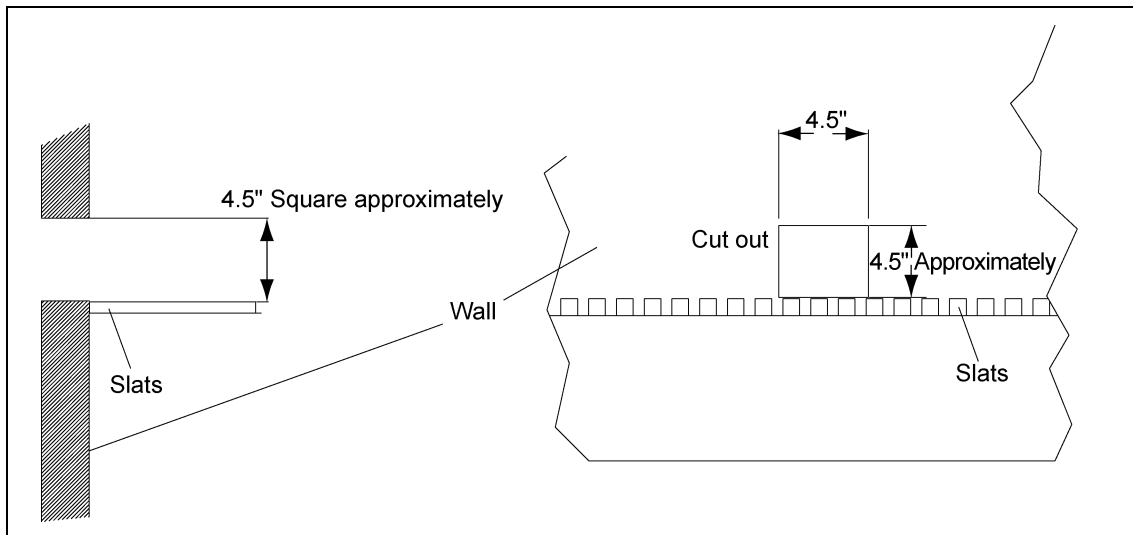

Figure 4U Wall Hole Detail
3. Cut two (2) holes in the wall directly above the slats as shown in Figure 4U. Hole location will vary with nest and collector placement. Be sure the diverter trays will go directly between the first nest and the egg collector.